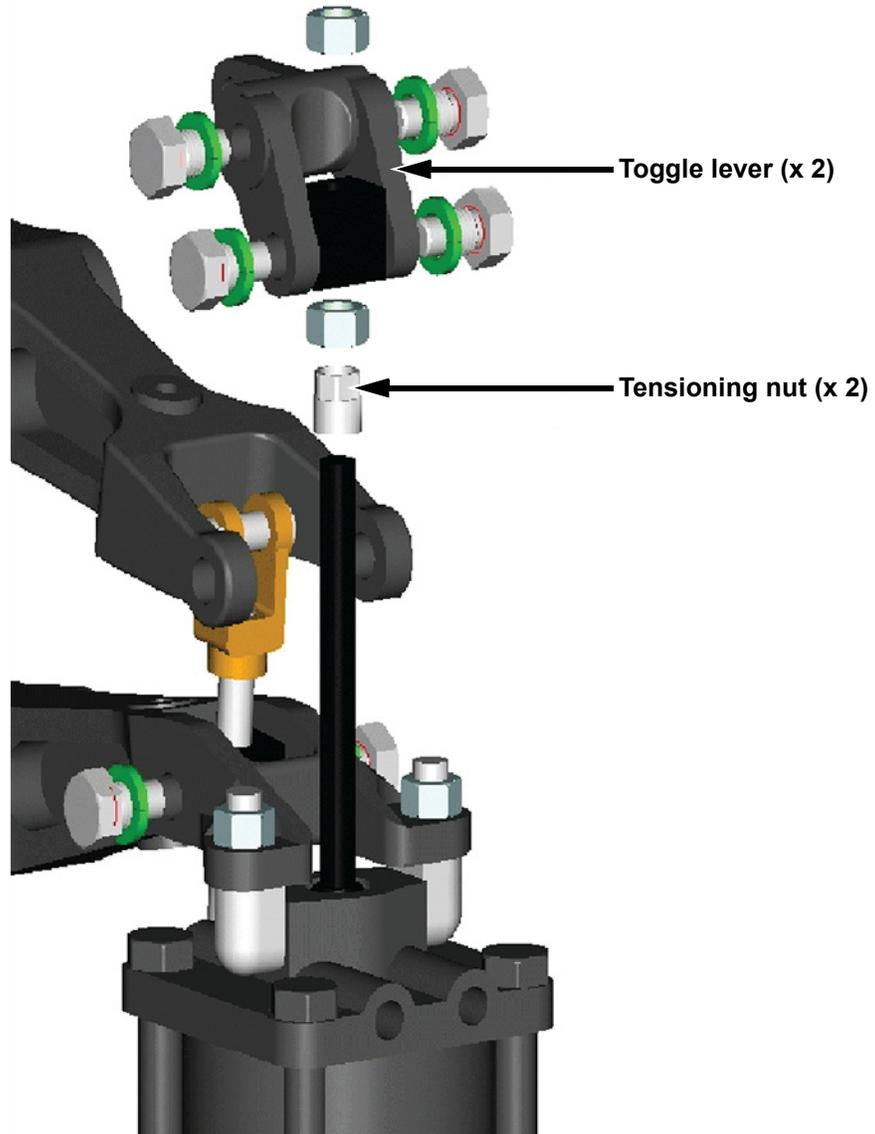

Figure 5: Exploded View
8. Replace toggle levers with the upgrade parts. See Figure 5 on page 6.